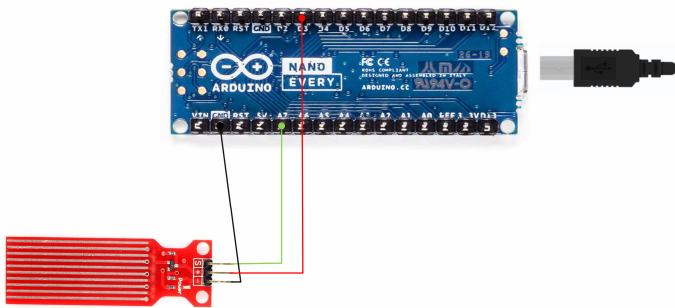

Fig. 2.1. Schematic for water sensor with Arduino Nano Every.
The schematic is given in Fig. 2.1. Step-by-step instructions for building this prototype are as follows.
- (1) Connect the water sensor to the microcontroller, as shown in Fig. 2.1.
- (2) Connect the microcontroller to the PC via USB cable.
- (3) Open Arduino IDE. In Tools>Board choose Arduino Nano Every.
- (4) Copy the code listed below and upload it to the microcontroller.